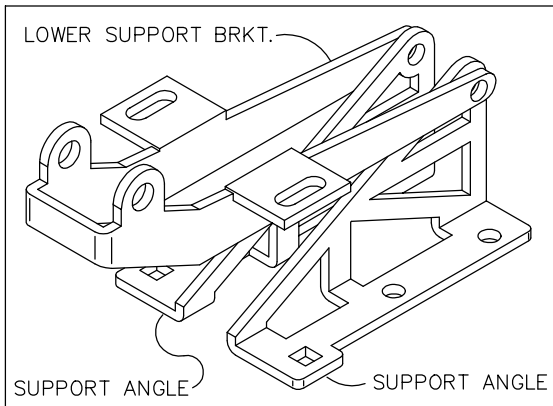

FIGURE 1
1. As shown in Figure 1, position L.H. support angle, R.H. support angle, and lower support bracket.